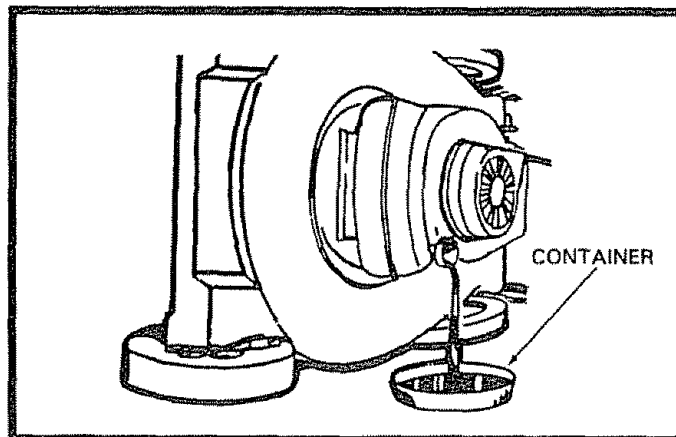

FIG. 10
- Tip lawn mower on its side as shown in Fig. 10 and drain oil into suitable container. Rock lawn mower back and forth to remove any oil trapped inside of engine.